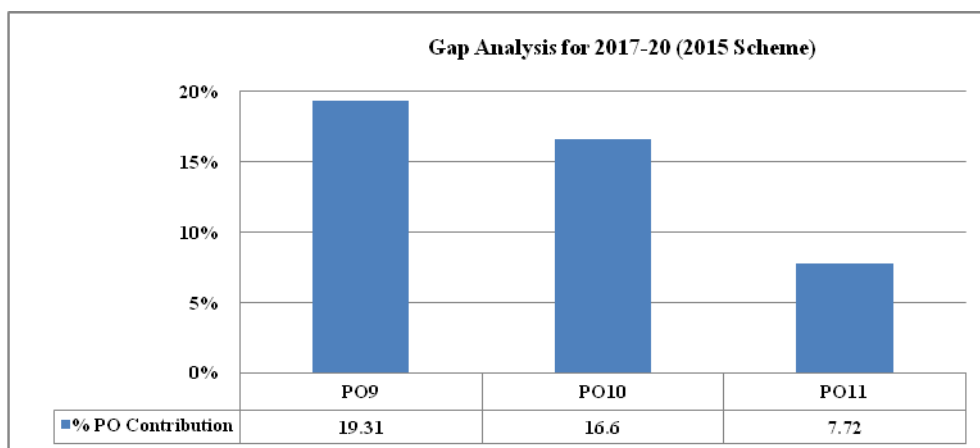

Fig. 2.10: Identified Gap's in Program Outcomes for 2017-20 (2015 Scheme).
Program Assessment Committee (PAC) has identified 20% of 259 number of Course Outcome (CO) contribution to each PO to total number of Course Outcome(CO's) from each curriculum (20% of 259=52 Co's). From the above analysis we have identified Curriculum gap of 2017-20 for 2015 Scheme and the same is represented in figure 2.10.